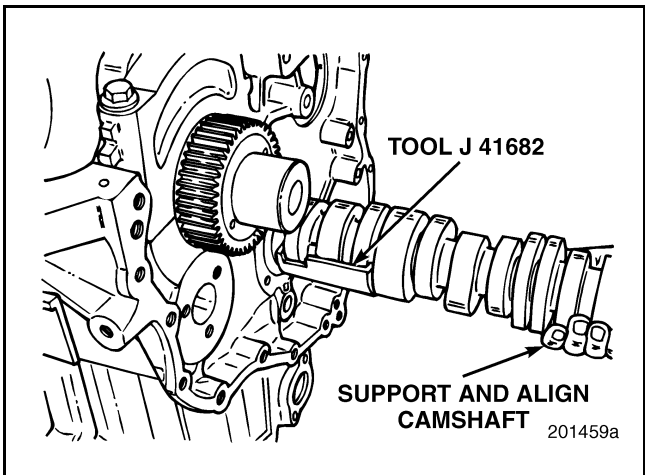

Figure 179 — Camshaft Removal
5. Taking care not to damage the camshaft or bushings, pull the camshaft out from the front of the engine (Figure 179). Carefully guide the rear of shaft through the journals. If the shaft does not come out freely, ensure that all valve lifters are clear of camshaft lobes and journals.